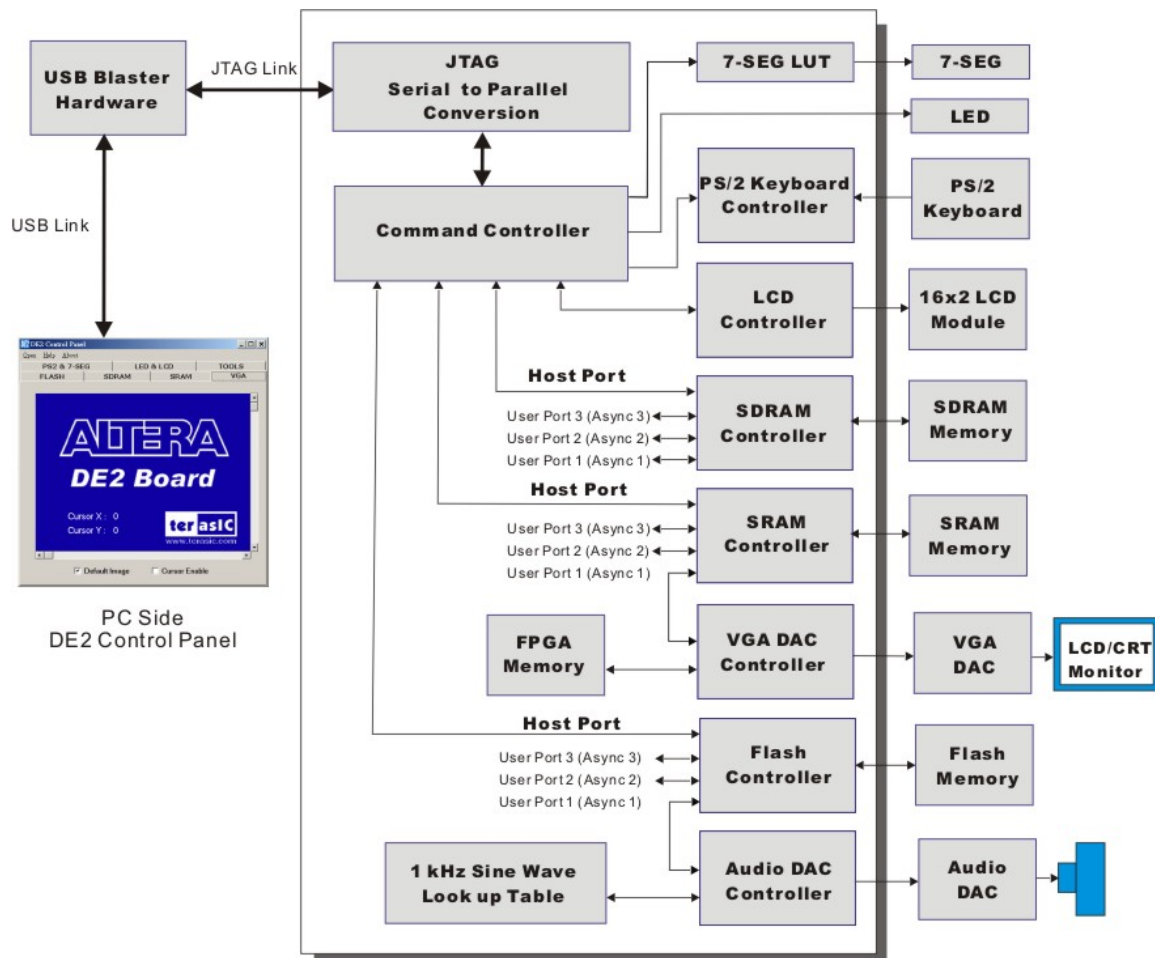

Figure 3.7. The DE2 Control Panel block diagram.
To run the Control Panel, the user must first set it up as explained in Section 3.1. Figure 3.7 depicts the structure of the Control Panel. Each input/output device is controlled by a controller instantiated in the FPGA chip. The communication with the PC is done via the USB Blaster link. A Command Controller circuit interprets the commands received from the PC and performs the appropriate actions. The SDRAM, SRAM, and Flash Memory controllers have three user-selectable asynchronous ports in addition to the Host port that provides a link with the Command Controller. The connection between the VGA DAC Controller and the FPGA memory allows displaying of the default image shown on the left side of the figure, which is stored in an M4K block in the Cyclone
3. Select the Asynchronous 1 port for the Flash Multiplexer and then click on the **Configure** button to activate the port. You need to click the Configure button to enable the connection from the Flash Memory to the Asynchronous Port 1 of the Flash Controller (indicated in Figure 3.7).
6. Note that the Asynchronous Port 1 is connected to the Audio DAC part, as shown in Figure 3.7. Once you selected Asynchronous Port 1 and clicked the Configure button, the Audio DAC Controller will communicate with the Flash memory directly. In our example, the